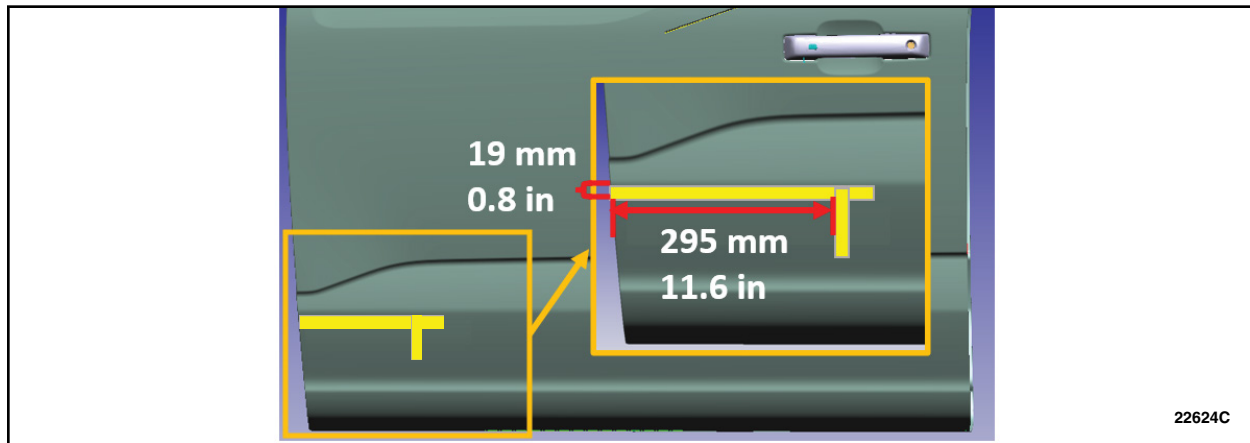

FIGURE 2
13. Measure and apply locating masking tape to the front LH door outer panel. See Figure 2.